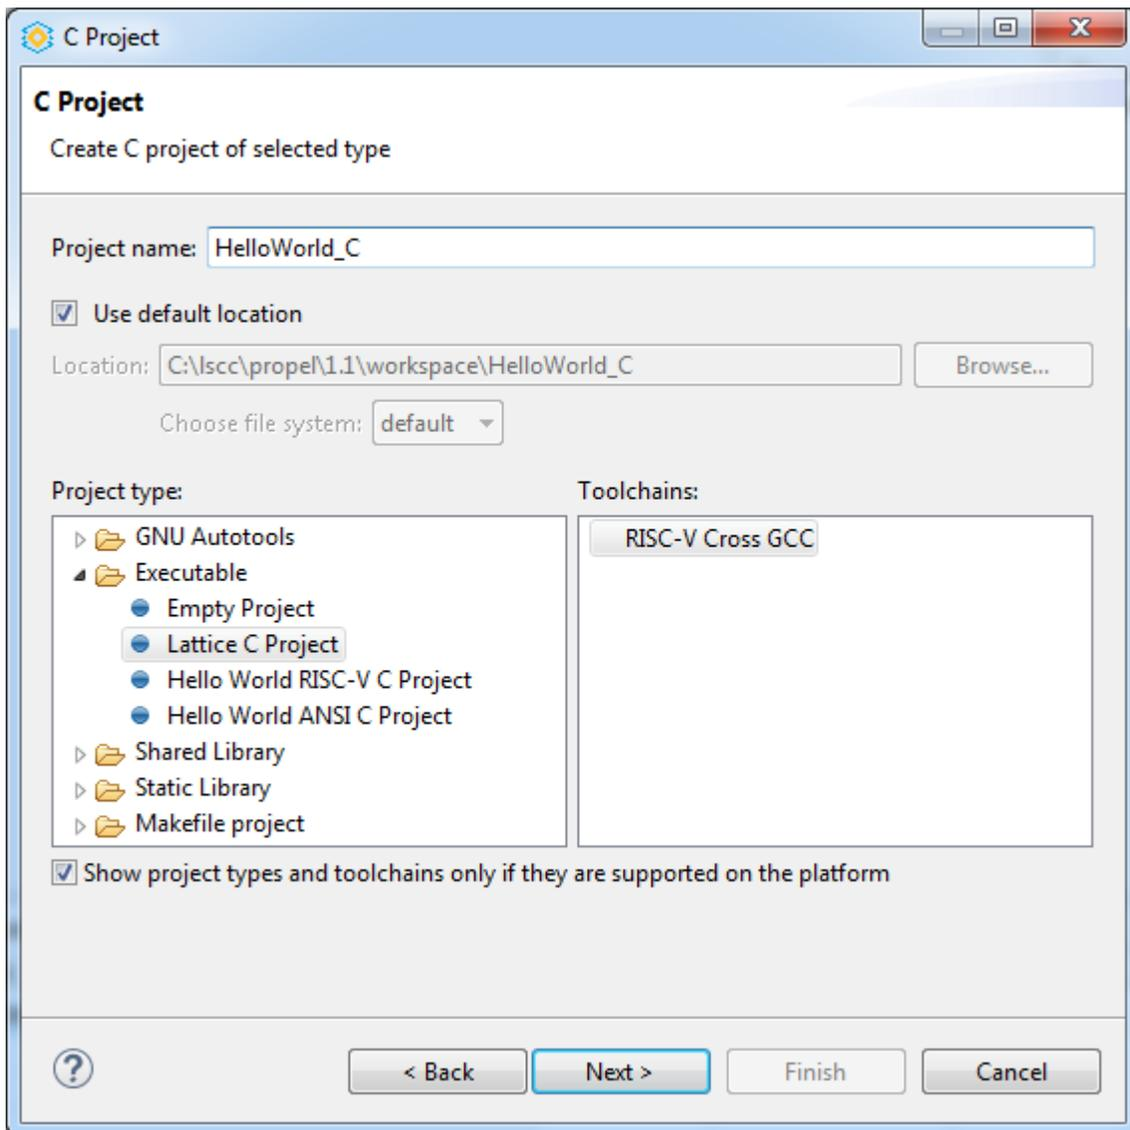

Figure 2.49. Create C project
3. Click **Next**. The C project dialog (Figure 2.49) opens.